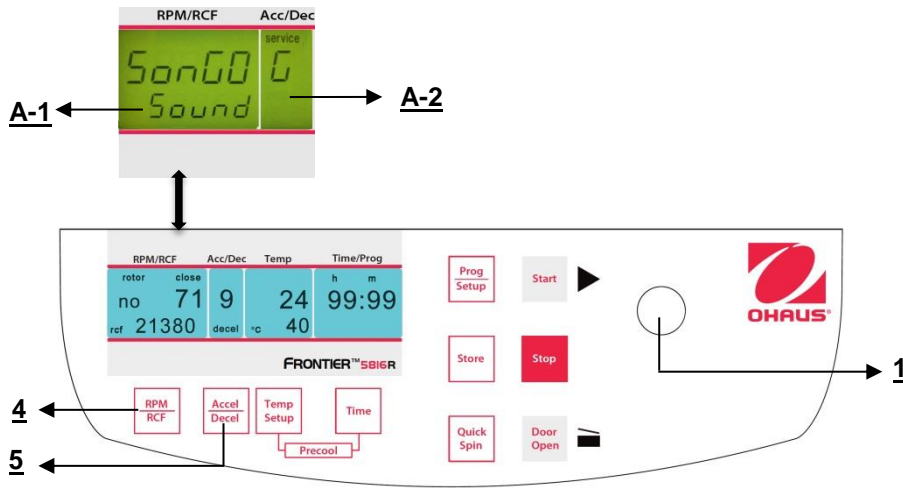

Figure. 34
Proceed as described under point 4.1.1 to enter this program mode and then press the key "Accel/Decel" (5). In the display "Acc/Dec" (A-2) the word "Service" flashes. Now select the letter "G". with the adjusting knob (1). As a result, in the display "RPM | RCF" (A-1), the word "SonGo/Sound" appears. After pressing the key "RPM | RCF" (4), you can select a song with the adjusting knob (1). (See figure 34).